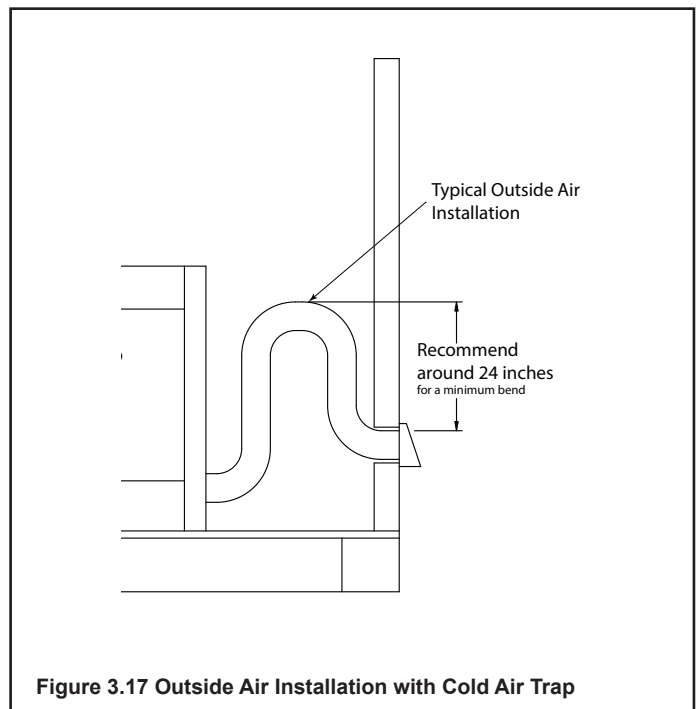

Figure 3.17 Outside Air Installation with Cold Air Trap
- Use 6 in. (152 mm) metal flex or rigid piping (not supplied) to directly connect outside air to fireplace intake. Insulate the pipe to prevent frost condensation. See Figure 3.17.